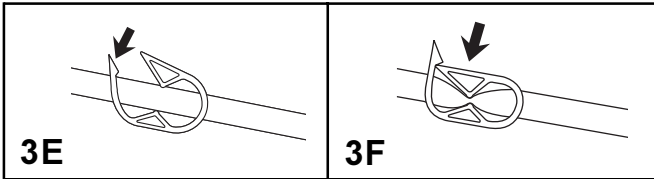

Figure 3E–3F—Hose Pinch Clamps
- Open the clamp by pushing the serrated end (fig. 3E).